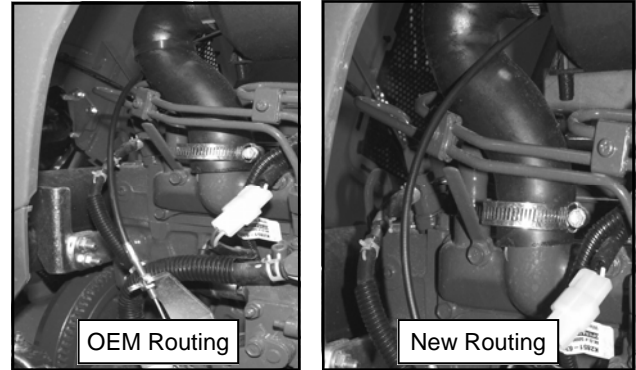

Fig. 2.24 (New Throttle Cable Routing)
- 2.24** Reroute the previously disconnected throttle cable from the front side of the air intake hose to the rear of it. See Fig 2.24.